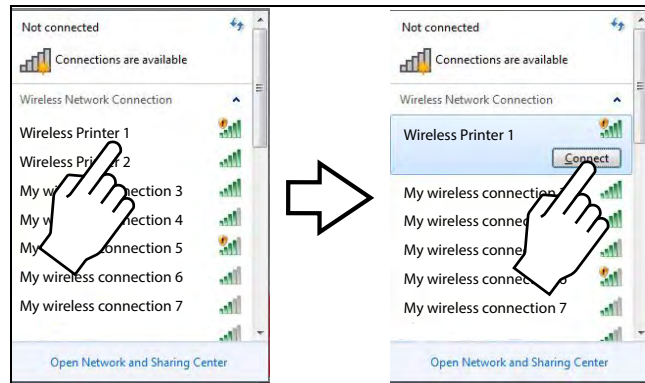

Figure 3-13
3. Choose your **Wireless Printer** from the list of available networks, then select **Connect** (Figure 3-13).